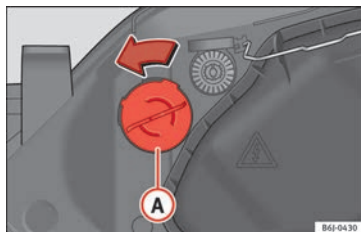

Fig. 94 Turn signal light.
- Turn bulb holder»» Fig. 94 **A** to the left and pull.